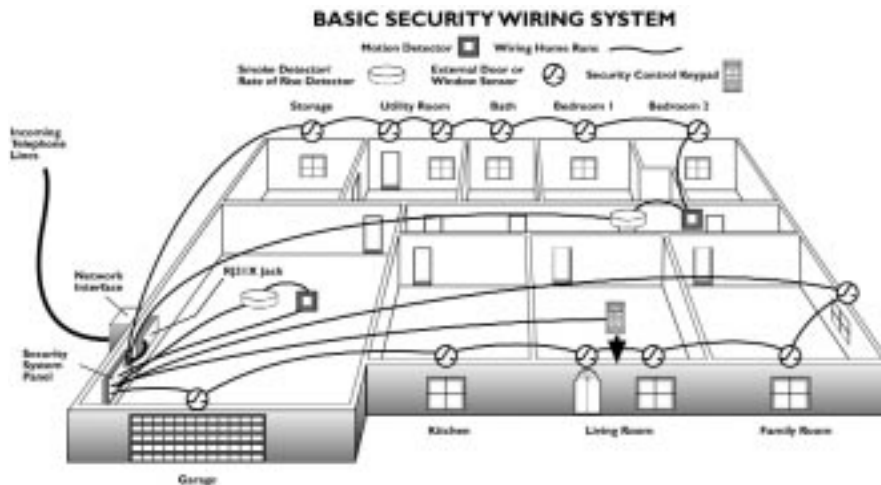

FIGURE 1
Components of an intrusion detection system include: (1) the control panel, a hidden box that receives information from the sensors and transmits the alarm (signals can also be sent to a central station, indicates the area of the building in which the alarm originated); (2) the arming station (also called master station, remote station, or touch pad) turns the system on and off (it is usually a remote keypad with LED or LCD display, but can be linked to touch screens, panic buttons, TV screens, computers, telephones, or handheld remotes); and (3) sensors send signals to the control panel (several types of sensors are used for intrusion detection: magnetic contacts signal when the door or window is opened; glass-break sensors protect windows, sliding glass doors, and skylights, and are activated either by the shock of glass breakage or the sound of breakage; passive infra-red sensors detect the presence of an intruder by comparing body heat to ambient temperature in occupied space; motion sensors detect movement in the area of coverage; combination, or dual technology, sensors [Fig. 1] detect two activities, for example glass-break and motion detection, which helps prevent false alarms).